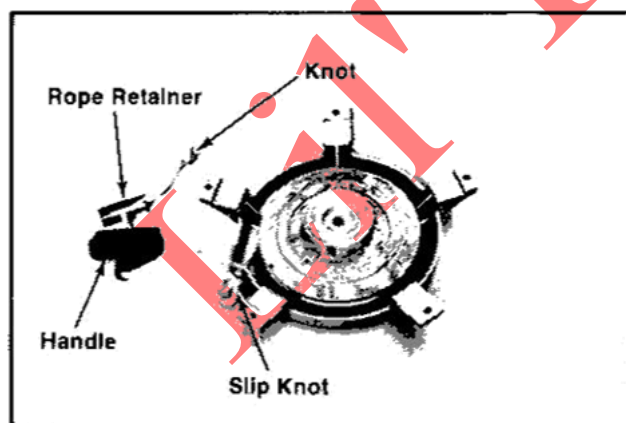

Figure 7-11. Removing Handle.
2. Pull the rope out approx. 12" and tie a temporary (slip) knot in it to keep it from retracting into starter. Refer to Figure 7-11.
18. Slip the handle and rope retainer onto rope. Tie a single knot at the end of rope and install rope retainer into handle. Refer to Figure 7-11.